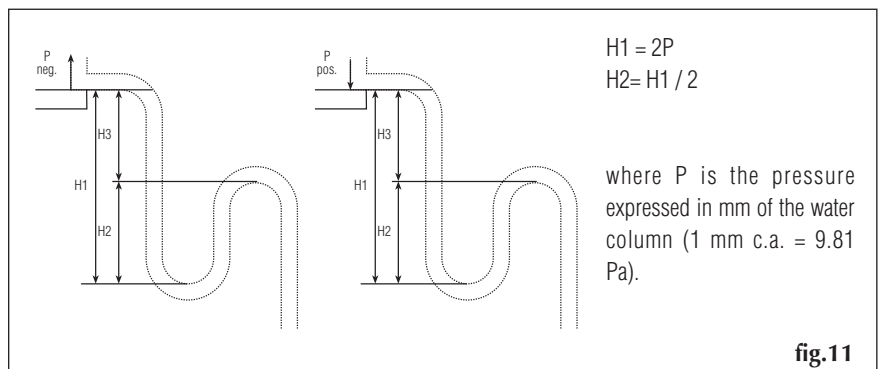

fig.11
- a space of at least 200 mm must be available for the trap in correspondence with the condensate drain (fig. 11).